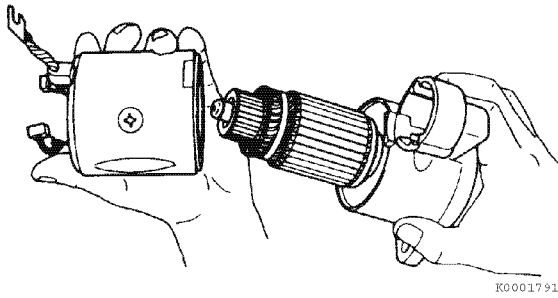

Figure 8-32
6. Install the field assembly over the armature assembly and align to the pinion housing (Figure 8-32).